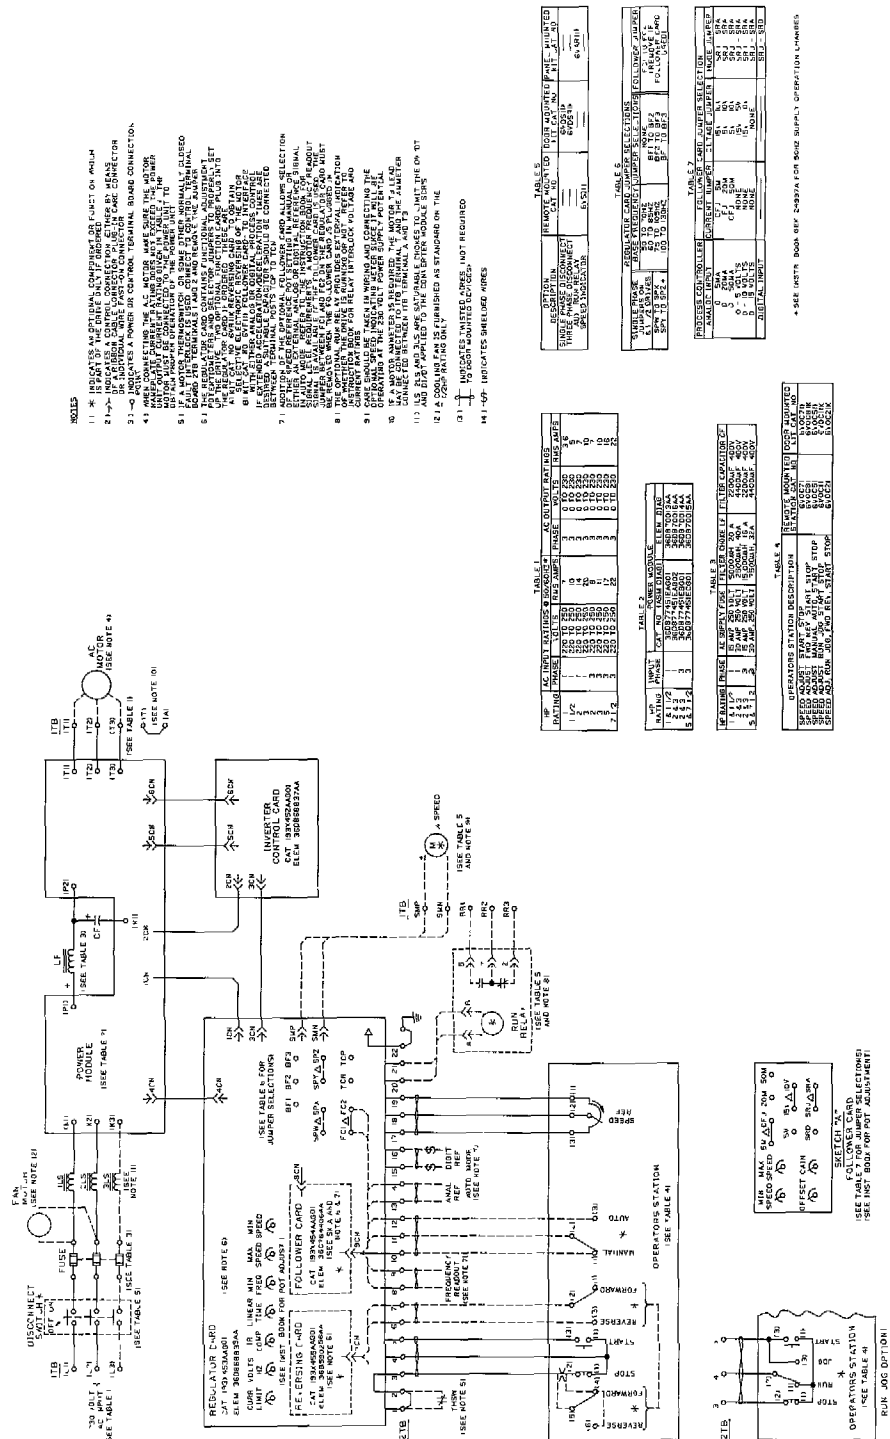

FIGURE 8
AFtrol I drive system consists of the AFtrol I controller, suitable operator's devices, and an AC motor. The controller consists of several modules and assemblies in an enclosure. All of these parts of a representative drive system including available options are shown in block diagram form in Figure 8 (36D87008AB).
plates insulated from the power circuit so that they can be mounted on a common heatsink. The external connections to the power module are shown in Fig. 8.
7. Card terminals 1 and 2, normally jumpered at 2TB, are for inserting a motor thermoswitch, thermal overload relay or other normally closed fault interlock, or auxiliary stop interlock. (See Fig. 8).
8. Card terminals 6 and 7 for use with the Reversing option operator's switch (See Fig. 8).
9. Card terminals 8 through 16 for use with the Follower option. (See Fig. 8).
This must be a 5000 ohm, 1 to 2 watt potentiometer, to give **MAXS** and **MINS** adjustments the correct control range, which is connected to the controller 2TB terminals 17, 18 and 19 as shown on Fig. 8.
This switch is connected as shown in Fig. 8. It allows selection of either the Speed potentiometer (in the Manual position) or an external analog or digital signal (in the Auto position) as the speed reference to the controller Regulator card.